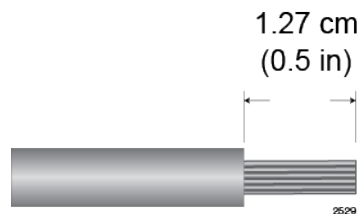

Figure 126. Stripping the Stranded Grounding Wire
1. Prepare an adequate length of stranded 10 AWG grounding wire by stripping it as shown in Figure 126.